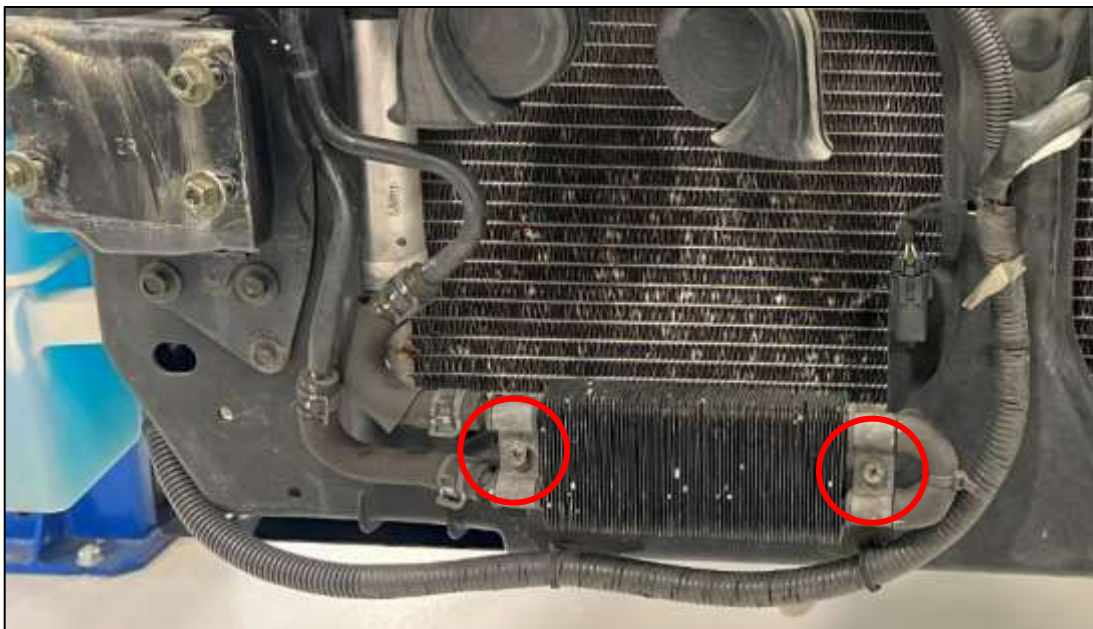

Figure 21
11. Remove the (2) two screws securing the Clamps to the Power Steering Cooler and discard the clamps. *Figure 21.*